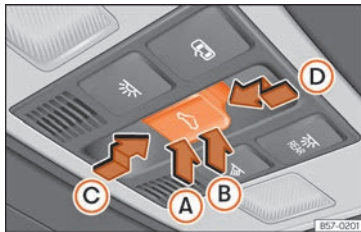

Fig. 128 On the interior roof lining: sunroof button.
The button **Fig. 128** has two levels. The first level switches the sunroof to the tilted position, opening or closing it fully or partially.
• *Sunroof*: within approximately 5 seconds of having activated the roll-back function, press the  button » » Fig. 128 to the second level in the direction of arrow » » Fig. 128 (D) until the sunroof closes completely.